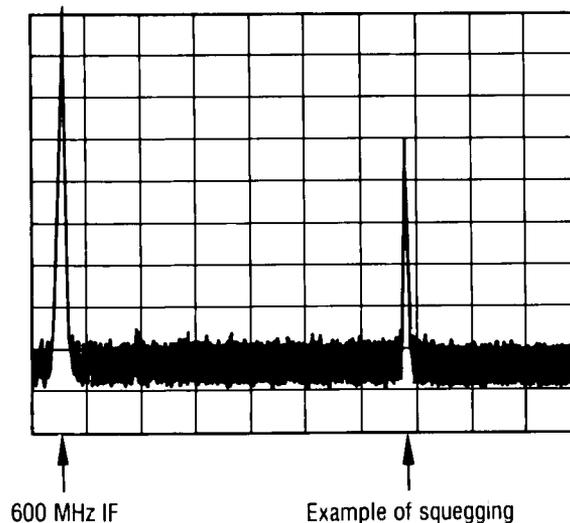

Figure 5-44. Unleveled Squegging Displayed on Spectrum Analyzer
74. Using the [**▲**] key on both the DUT and the LO, step through Band 2, observing the Spectrum Analyzer display at each step. There may be responses due to mixing products. These will appear as low level signals. A squegging response will appear as a higher amplitude signal as shown in Figure 5-44. If squegging occurs at DUT frequencies below 10 GHz, adjust A24R3 (X2A) slightly CCW to eliminate squegging. If squegging occurs at frequencies above 10 GHz, adjust A24R4 (X2B) to eliminate the squegging. Note, if the control is adjusted and there is no effect on the response, the response is probably a mixing product